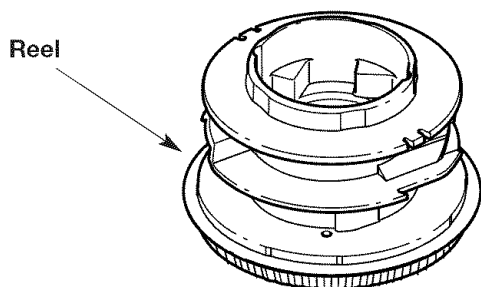

Fig. 22
- Remove any debris or grass from the knob, spring, reel, and foam seal. Remove any existing line from the reel before cleaning. Wash the reel with warm soapy water (Fig. 22).